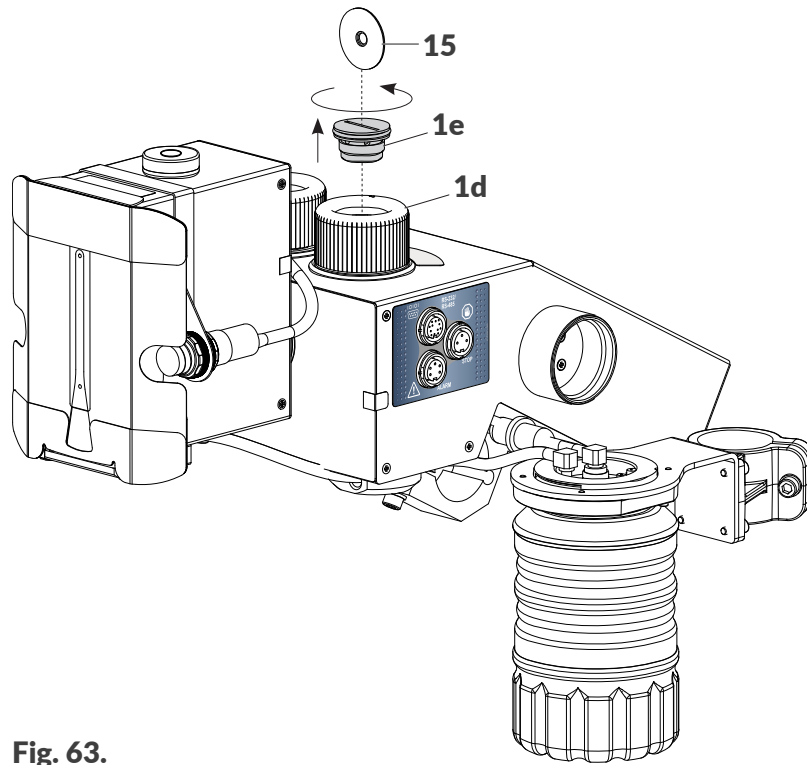

Fig. 63.
When it is dirty, air filter **1e** (see Fig. 63 on page 153) can be the reason for the accumulation of air bubbles in the printhead, which in consequence may lead to deterioration of print quality or no prints at all. It is necessary to inspect air filter **1e** systematically, with frequency adequate to the conditions in which the printer operates. The filter gauze in a clean air filter should be white in color. If the filter gauze is dirty, it is advisable to replace the complete air filter (**1e**). The air filter should be replaced not less frequently than every **12 months**.
2. Use instrument **15** to screw air filter **1e** (see Fig. 63 on page 153) out of ink-system valve **1d**. While air filter **1e** is being unscrewed, it is necessary to hold ink-system valve **1d** with the hand so that it does not turn.